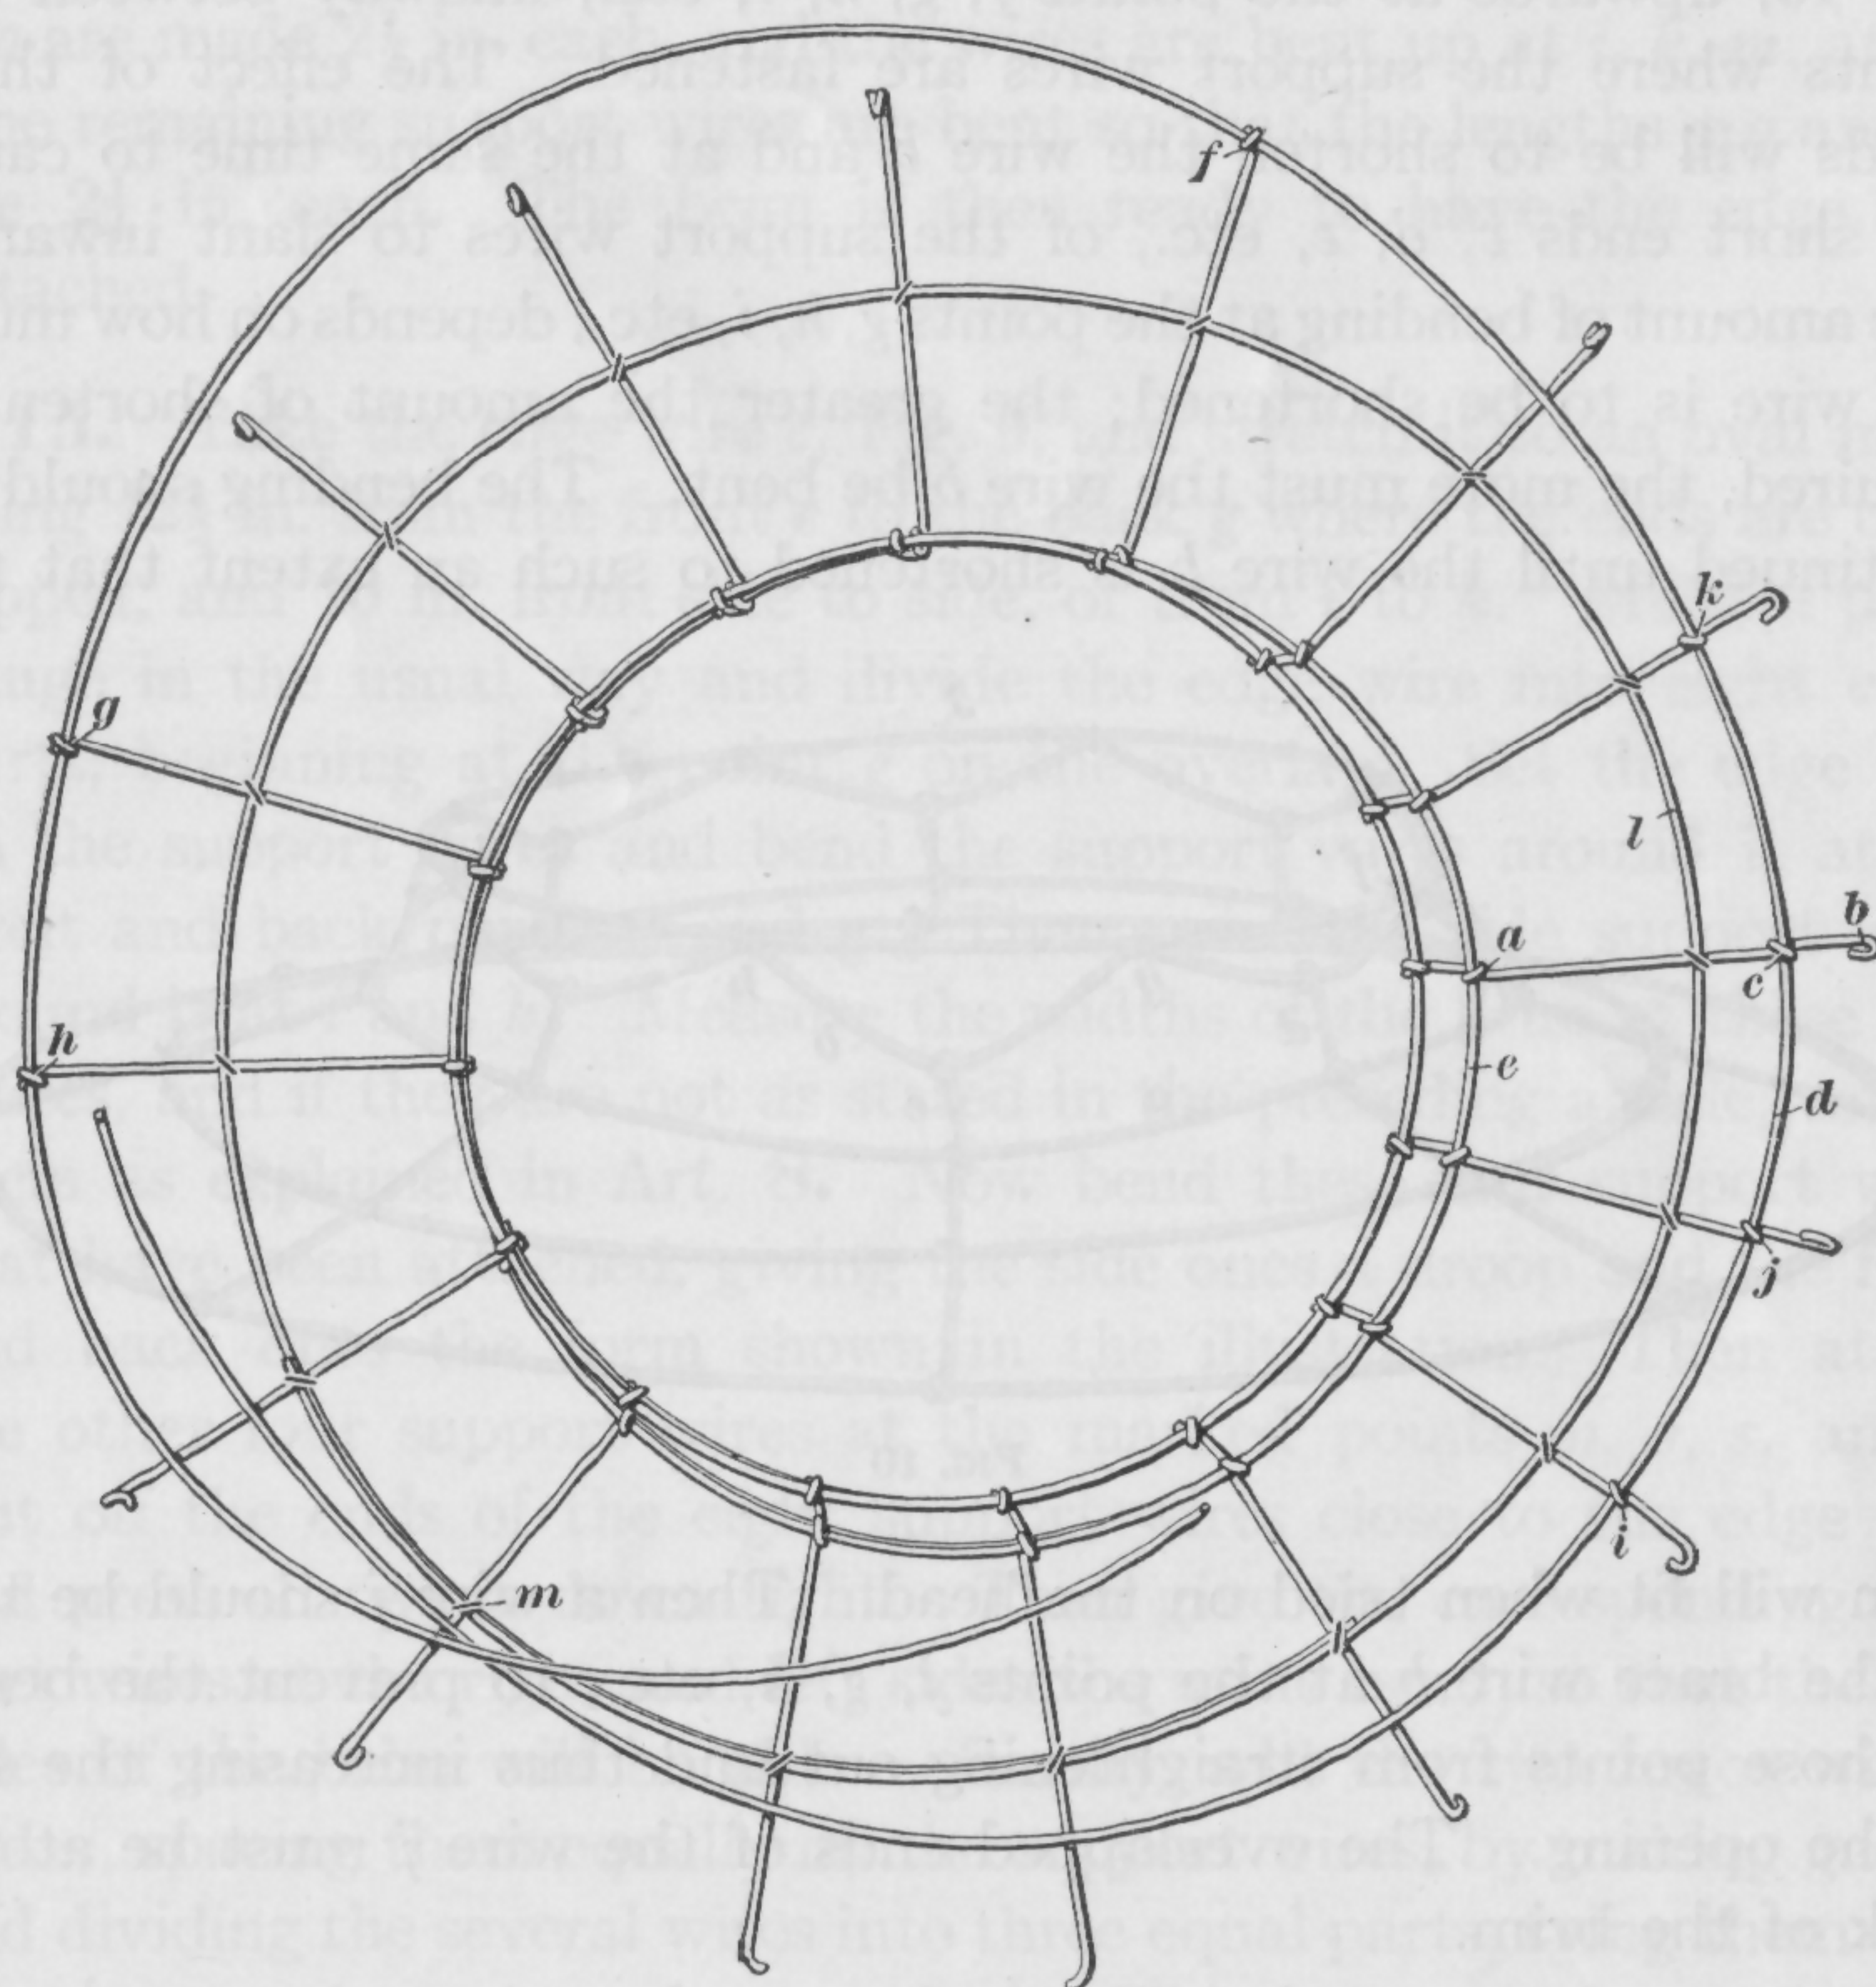

FIG. 11
18. **Reducing Width of Brim.**—If a brim of the desired width cannot be obtained readily, a wide brim may be purchased and the width may easily be reduced; or, if the style changes from wide to narrower brims, an old brim may be made narrower without much effort. A method of reducing the width of a wire brim is shown in Fig. 11. The original width of the brim is represented by the length  $a b$  of the support wire and the width to which the brim is to be reduced is the length  $a c$ . The method of doing this is simply
not necessary to loosen all the support wires before beginning to refasten the edge wire; in fact, it will be found easier to allow the edge wire to remain fast at two or three places, as at *f*, *g*, and *h*, Fig. 11.
19. Cut a strip of paper of a length equal to *a c*, Fig. 11, to be used as a gauge, and from the head-size wire *e* mark off the points